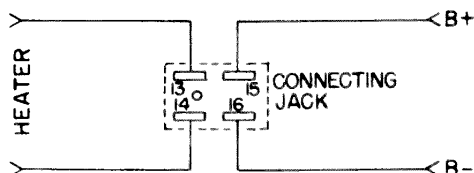

Figure 3.
2.1 POWER SUPPLY. Connect an external power source to the connecting jack as shown in Figure 3. Recommended power sources are the Type 1203 Unit Power Supply, Type 1201 Unit Regulated Power Supply, and Type 1204 Unit Variable Power Supply. The power supply should be able to deliver 2.7 amp at 6.3 volts (60 cps) and 50 ma at 300 volts dc. The heater supply and the dc plate supply should not be interconnected. When using the Type 1204 Unit Variable Power Supply, set the output to 300 volts.